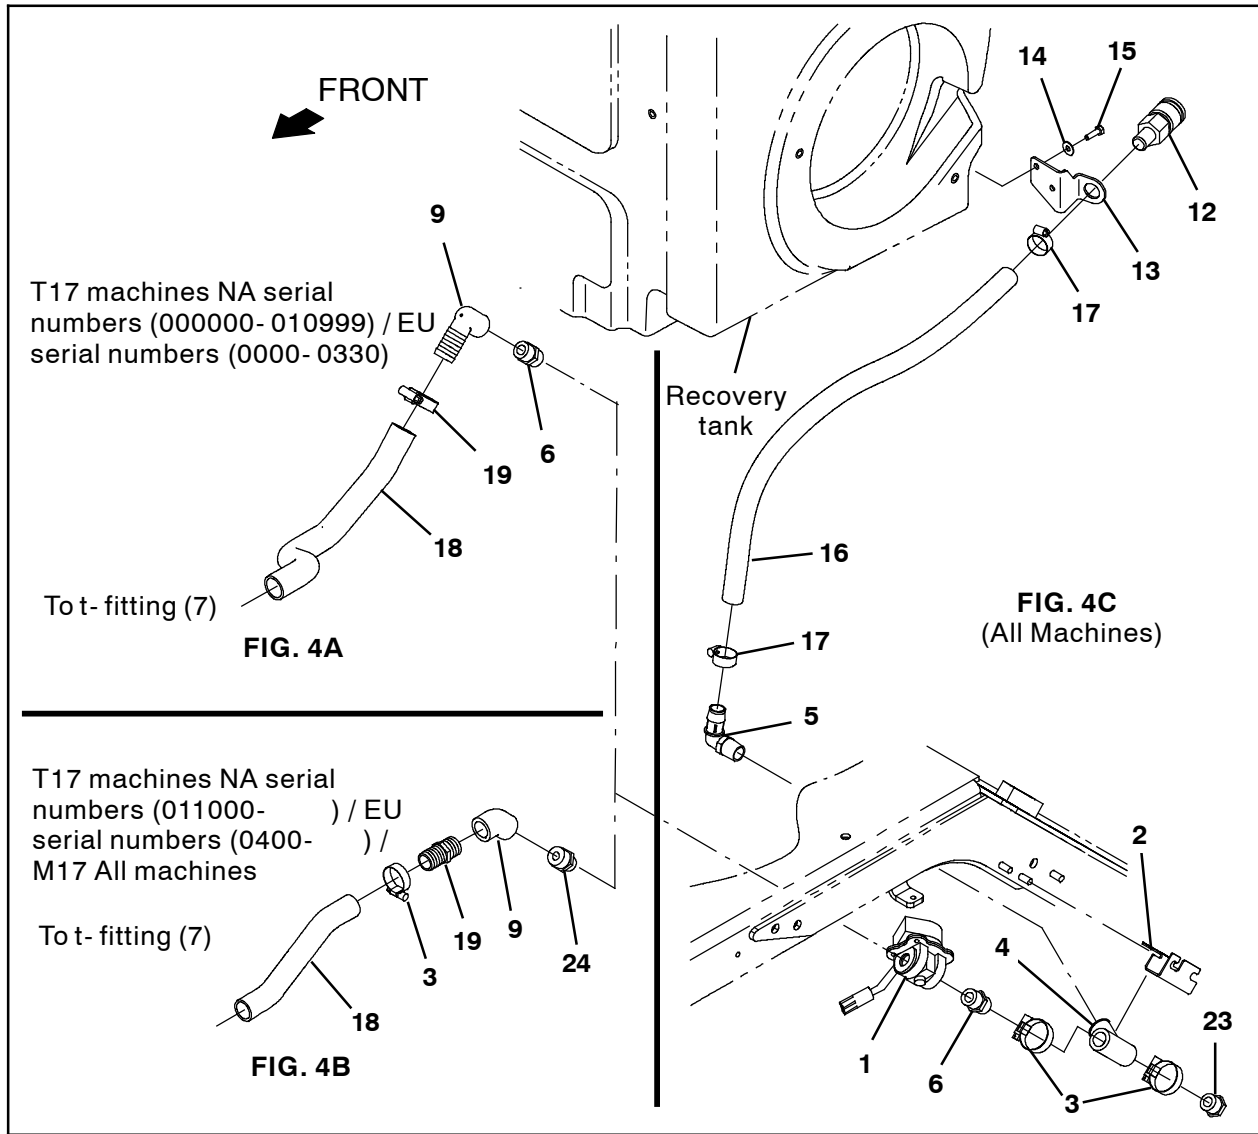
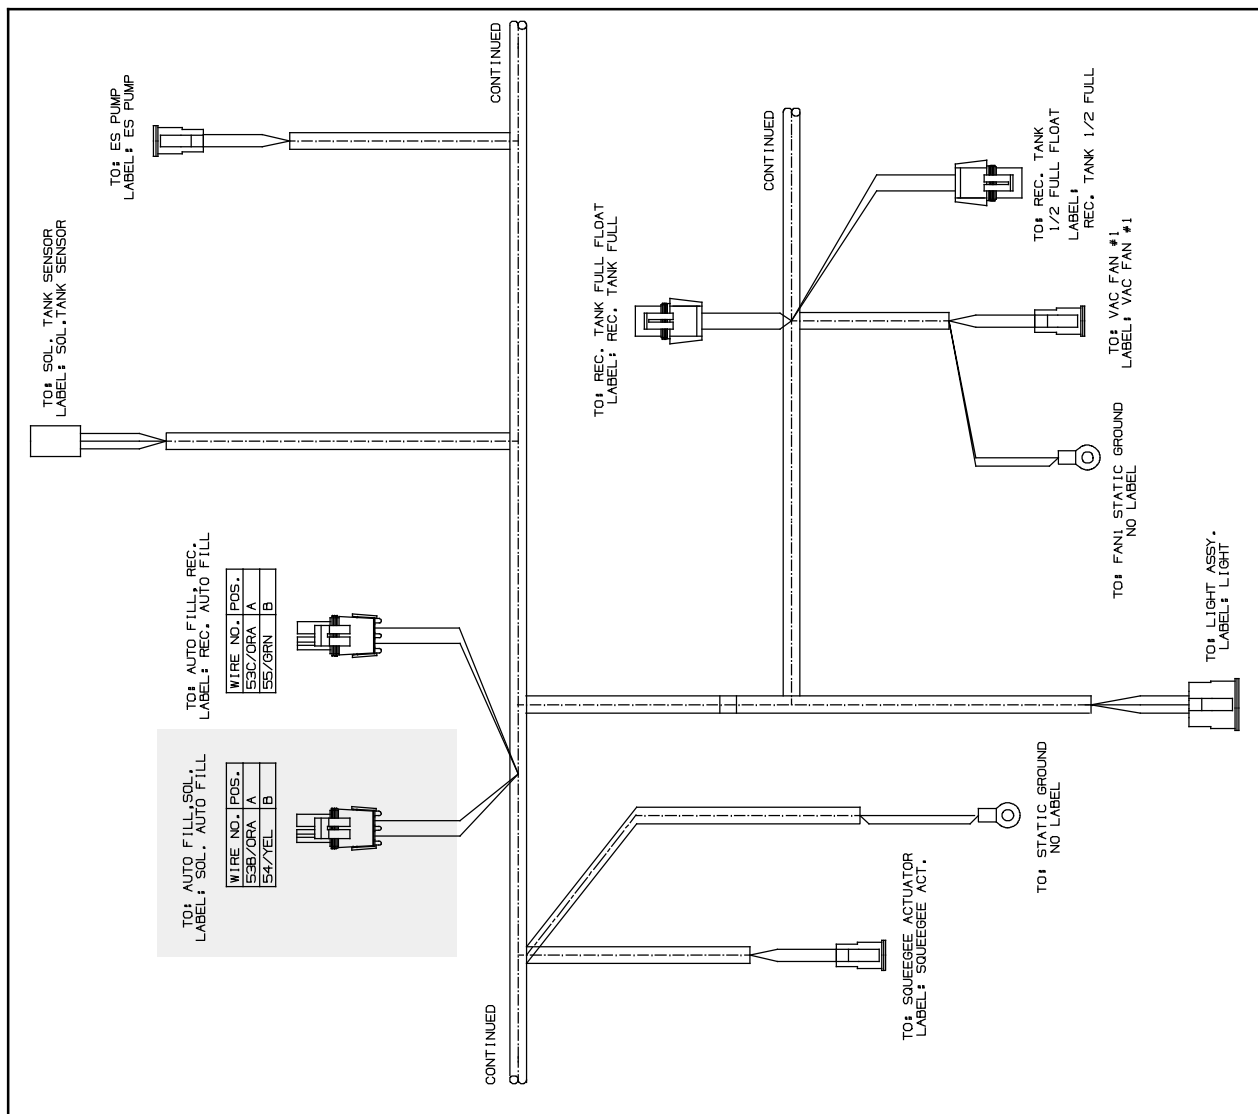

FIG. 4
FIG. 6
30. Connect the main wire harness to the water solenoid valve (1). (Fig. 4 / Fig. 6 / Fig. 7)